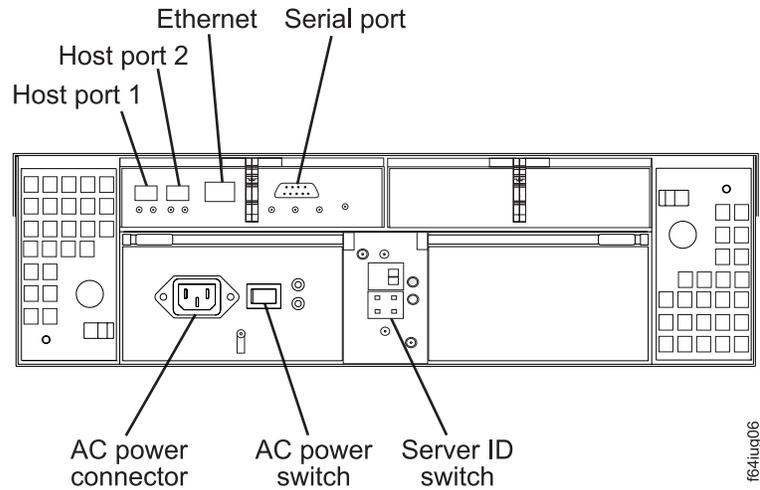

Figure 37. Location of host cables (Model 6LU/6LX)
2. Connect the host-system Fibre Channel cables between the RAID controller host ports and the HBA ports or Fibre Channel switch ports. Figure 37 on page 39 shows the location on the RAID controller where the host-system Fibre Channel cables connect.